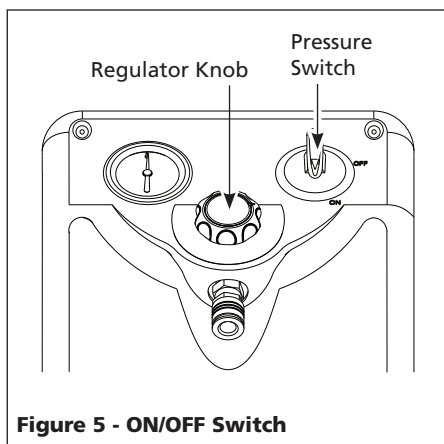

Figure 5 - ON/OFF Switch
- **Pressure Switch** - ON/OFF Switch (Figure 5) - In the ON position, the compressor shuts off automatically when tank pressure reaches the maximum preset pressure. In the OFF position, the compressor will not operate. This switch should be in the OFF position when connecting or disconnecting the power cord from the electrical outlet or when changing air tools.